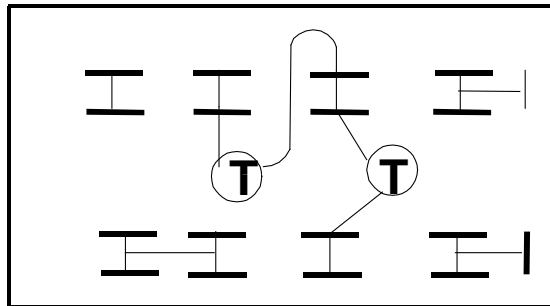

Fig. 5 Wired for 240VAC Conversion
- Step 1: Wire Power Transformer Terminal block as illustrated in Figure 5.